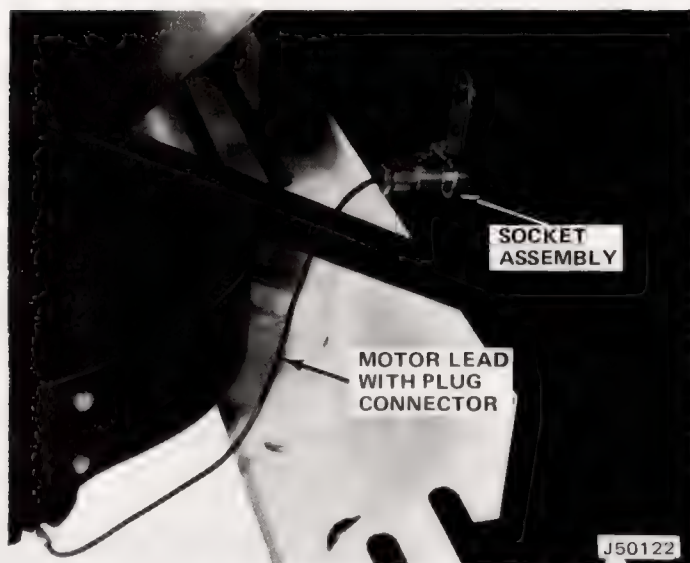

Fig. 4-6 Socket Assembly Installed
(1) Position socket assembly at center of lower rear panel or other convenient location (fig. 4-6).
(2) Using assembly mounting bracket as template, drill two 5/32-inch holes in panel and attach socket assembly with screw and attach socket assembly with screws and locknuts.